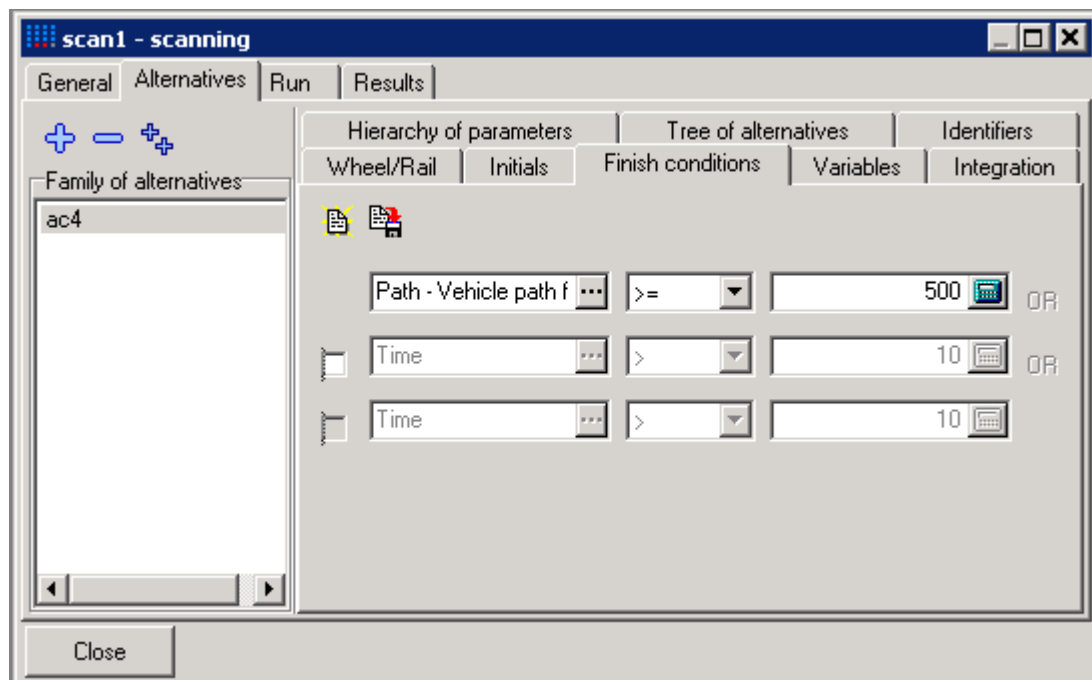

Figure 3.12. Finish conditions
Here you can describe finish conditions for each numerical experiment in the current family (see Fig. 3.12). Finish conditions are formulated in the following way: “Interrupt a numerical experiment if at least one of the conditions is satisfied”. Using scanning project you can set finish condition as
2. Increase vehicle path up to **500** m, see Fig. 3.12.